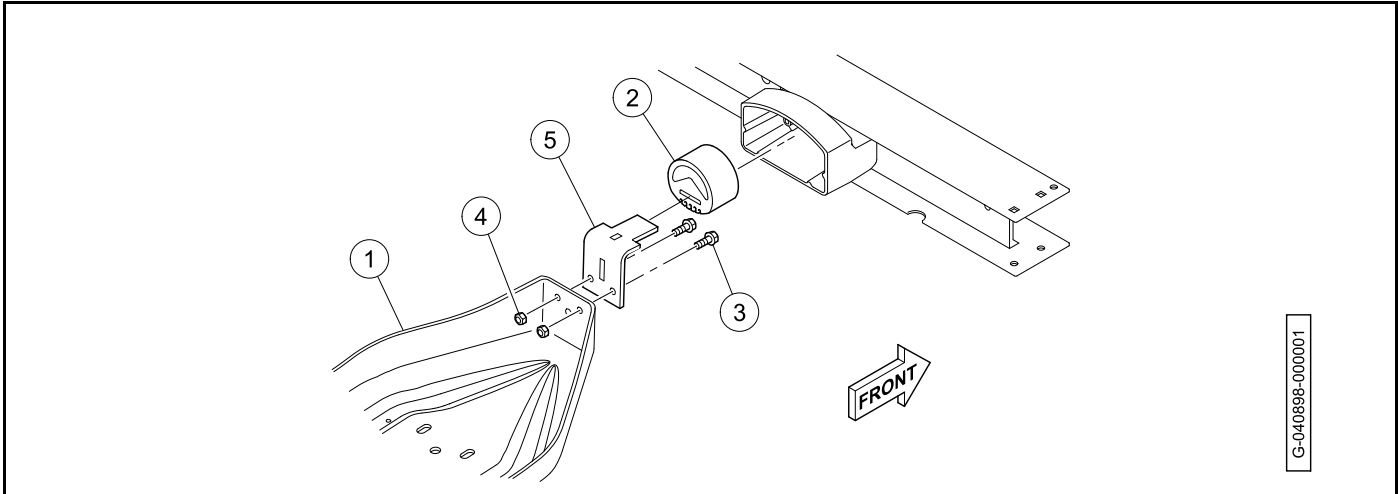

Figure 21-9 Snubber
1. Support the powertrain with a floor jack under the engine pan (1) so that the snubber (2) is raised slightly and does not rest on the vehicle frame (**Figure 21-9, Page 21-8**).
2. Remove the two bolts (3) and two lock nuts (4) securing the snubber bracket (5) to the engine pan.
1. Slide the snubber (2) onto the snubber bracket (5) (**Figure 21-9, Page 21-8**).
2. Install the snubber bracket and snubber assembly onto engine pan (1).
3. Install the bolts (3) and lock nuts (4). Tighten the lock nuts (4) from 20 to 25 ft·lb (27.1 to 33.9 N·m).